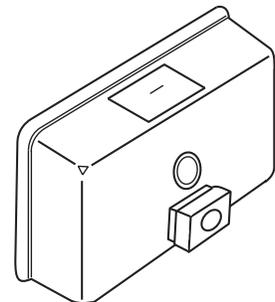

FIGURE 3
5. Close and lock filler-top by reversing operation in step 1 (see Figure 3).